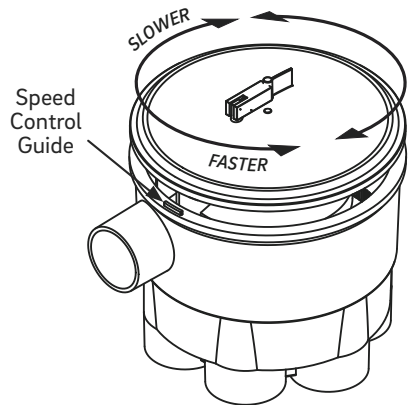

Figure 2
4. Rotating the lid counter-clockwise increases the rotation speed and rotating the lid clockwise decreases the rotation speed (Figure 2).